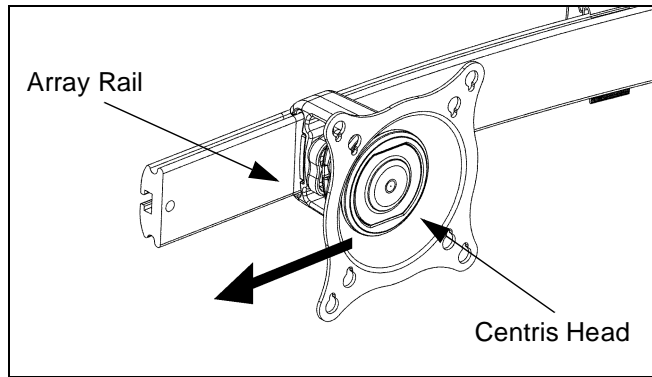

Figure 7: Slide Centris Bracket off Array Rail
2. Remove Centris head from mounting rail. (See Figure 7)